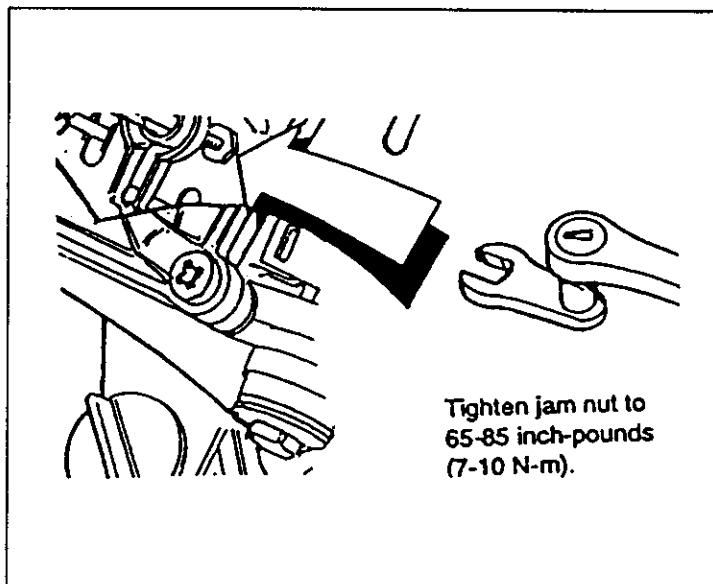

FIG. 17
- When valve clearance is correct, hold pivot ball stud with allen wrench and tighten rocker arm jam nut with a crows foot. Tighten the jam nut to 65-85 inch-pounds torque. After tightening the jam nut, recheck valve clearance to make sure it did not change (Fig. 17).